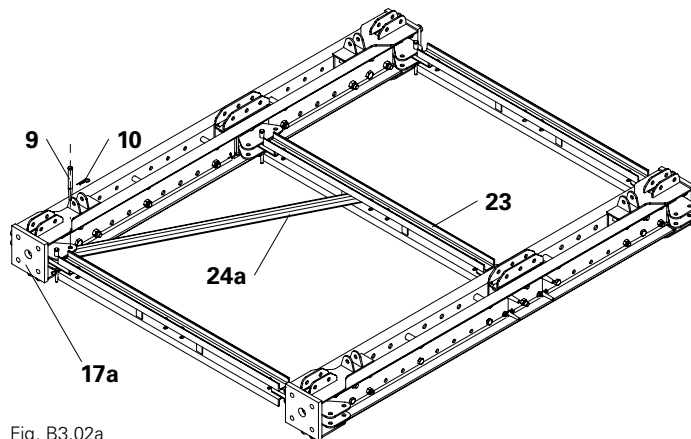

Fig. B3.02a
2. Swivel the Diagonal Strut VST 200/150 (**24a**)* as far as possible into the Horizontal Ledger VST 200 (**23**). (Fig. B3.02a)